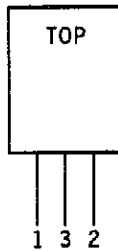

Figure 6D-48. Package Pin Locations.
*** Refer to figure 6D-48 for pinouts.